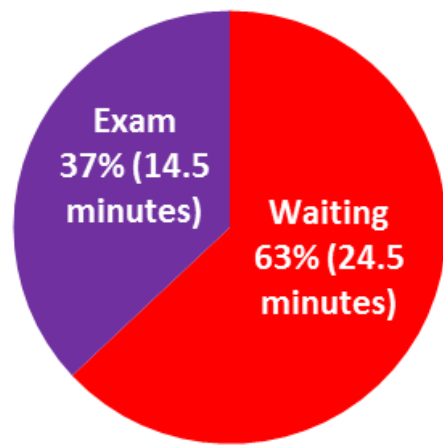

Figure 2
- A multi-disciplinary team developed a value stream map (VSM) illustrated in Figure 2 to analyze the screening mammogram practice which averages 150 patients per day.